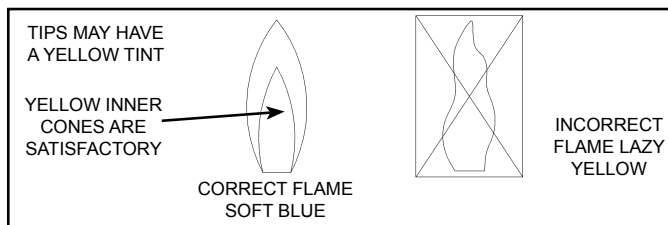
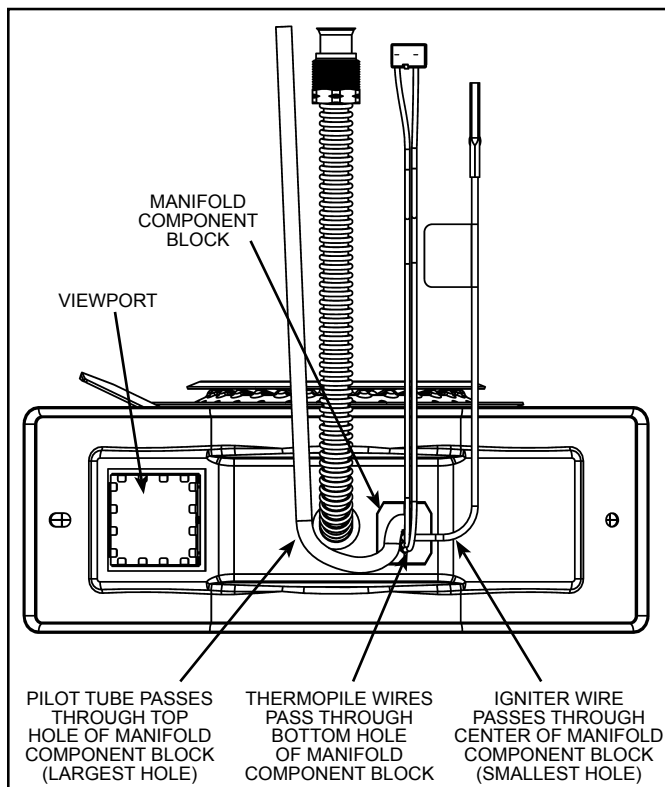

Figure 32
Figure 38
At least once a year a visual inspection should be made of the main burner and the pilot assembly for proper flame characteristics. This can be done by removing the Outer Door and viewing the main burner operation through the Viewport on the Inner Door (see Figure 38). The main burner should provide complete combustion of gas, ignite rapidly, give reasonably quiet operation, and cause no excessive flame lifting from the burner ports. If the proper flame characteristics are not evident (see Figure 32), make sure that the flow of combustion and ventilation air is not blocked in the venting system. You should also check for sooting. Soot is not normal and will impair proper combustion.
Inspect the burner flames through the viewport and compare them to the drawings in Figure 32. A properly operating burner should produce a soft blue flame. Blue tips with yellow inner cones are satisfactory. The tips of the flame may have a slight yellow tint. The flame should not be all yellow or have a sharp blue-orange color. Contaminated air may cause an orange colored flame. Contact a qualified service technician if the flame is not satisfactory
9. Reinstall the manifold component block in the manifold door. Ensure that the pilot tube and wires are positioned as shown in Figure 38.